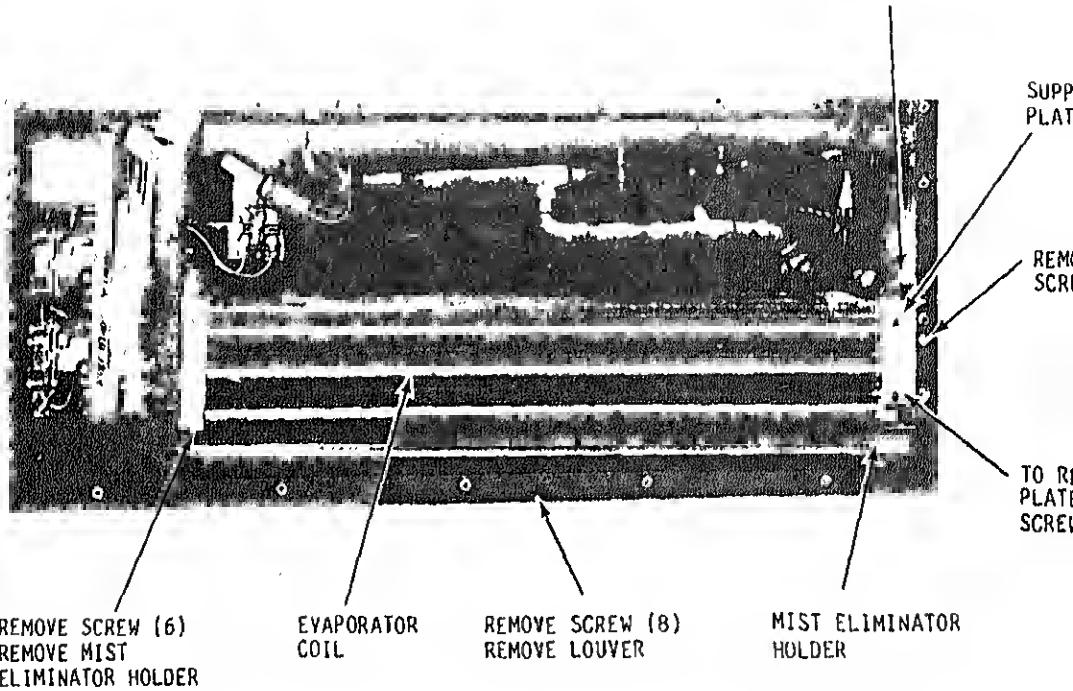

Figure 5-3. Evaporator coil and mist eliminator holder, removal and install
(4) Refer to para 4-30 and remove heating elements.
(5) Refer to figure 5-3 and move support plate that holds coil housing.
(6) Refer to figure 5-3 and disconnect tubing from evaporator coil.
(7) Remove six screws, washers, lockwashers that hold evaporator coil and mist eliminator holders to air conditioner. Remove holders and coil.
(1) Install coil and mist eliminator holder in air conditioner and secure to brackets with six screws, washers, and lock washers. The upper four screws, washers and lockwashers attach both the coil and mist eliminator holder; the lower two hold the coil only.
(2) Refer to figure 5-3 and install coil support plate.
(3) Connect tubing to coil. Leak test as described in 5-6.